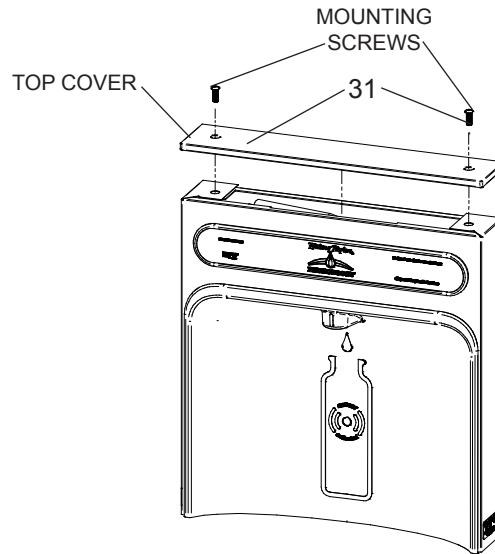

Fig. 8
- 9) Once Bottle Filler is installed on wall plate tabs, water line and power cord are installed properly, push top of Bottle Filler toward wall and line up top cover two (2) holes.
- 10) Reinstall Top Cover on Bottle Filler (See Fig. 8) with two mounting screws from step 1 above. Caution, do not over tighten screws.